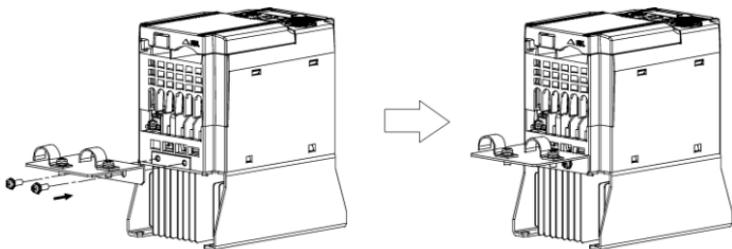

Figure 11.1 Attaching the EMC Grounding Flange
- 1) Mount the EMC grounding flange (that comes with the inverter) to the inverter with screws in order to ground the wire shield(s). (See Figure 11.1.)